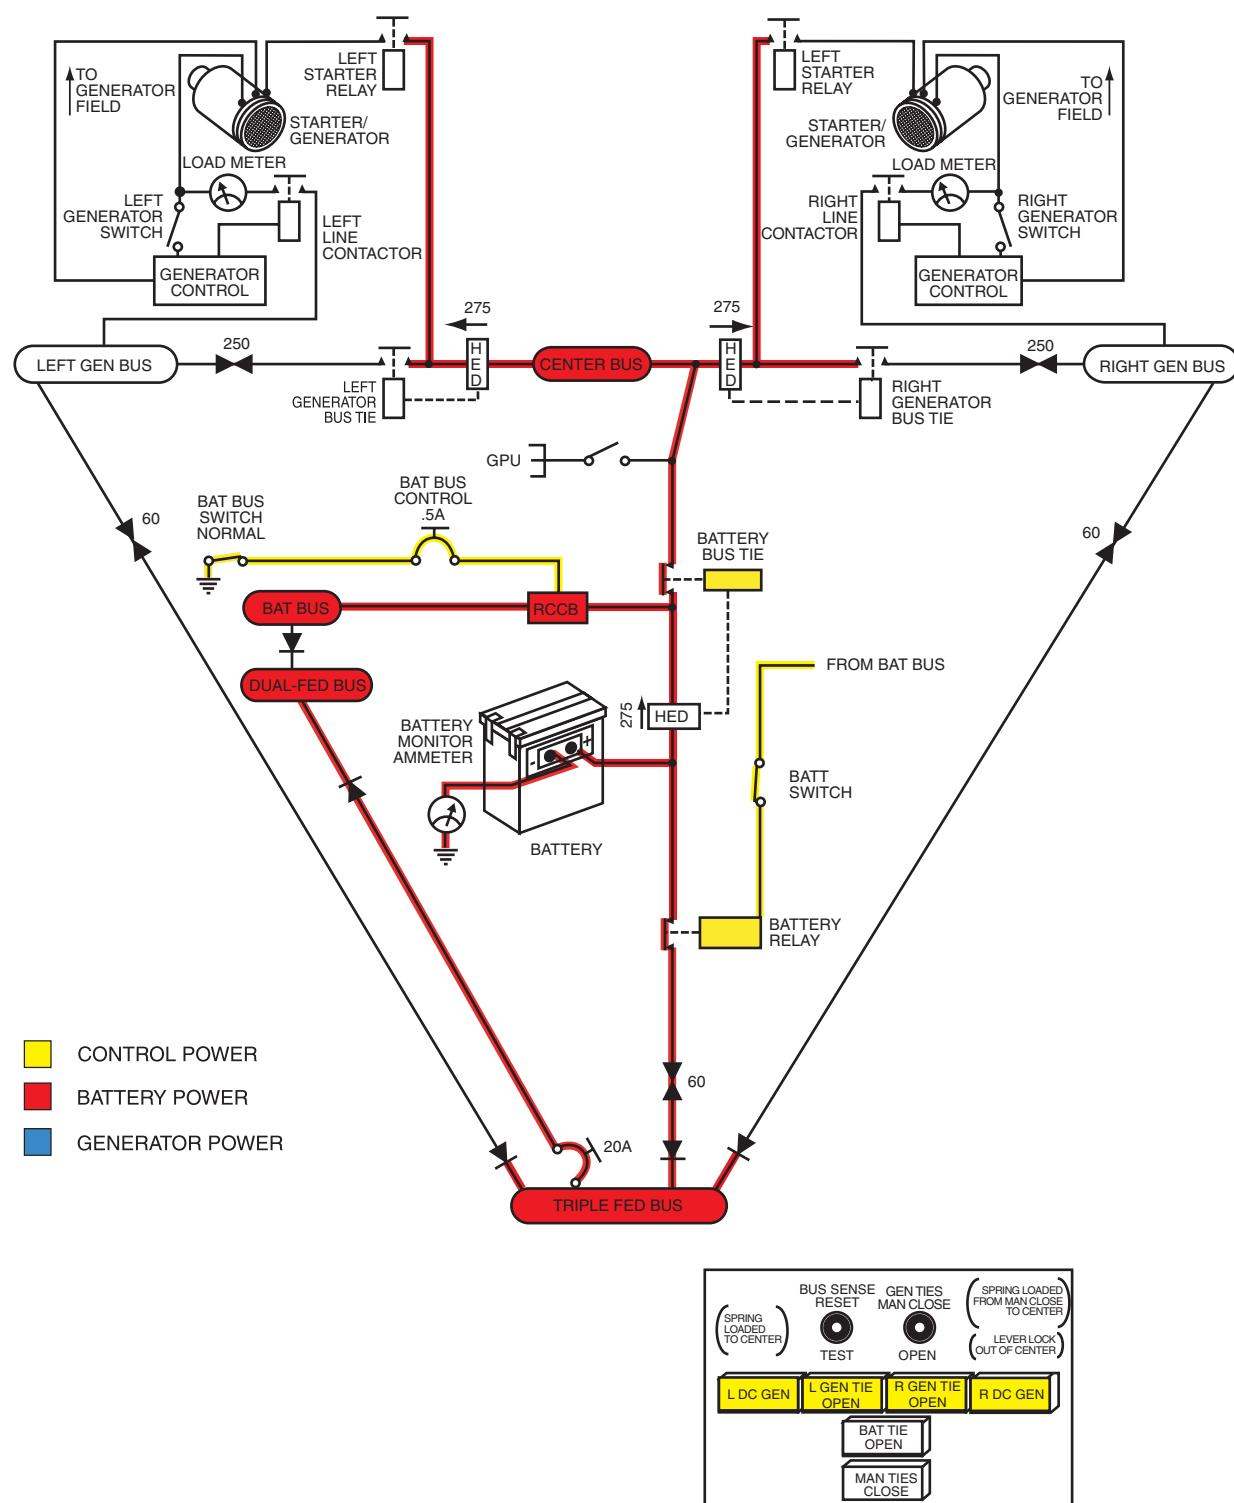

Figure 2-45 King Air 350 Power Distribution—Battery Switch ON
- Figure 2-45—King Air 350 Power Distribution—Battery Switch ON